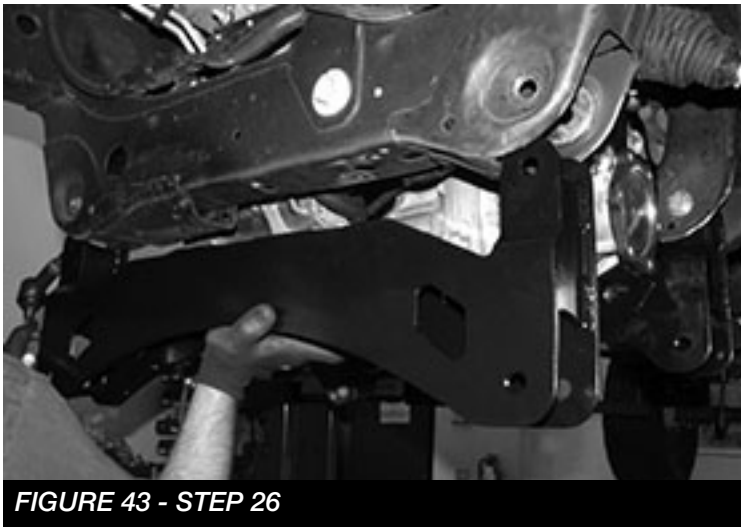

FIGURE 43 - STEP 26
26. Locate and install FT20637BK (front crossmember) into the factory lower control arm pockets using the stock hardware. Leave loose at this time. **SEE FIGURE 43**